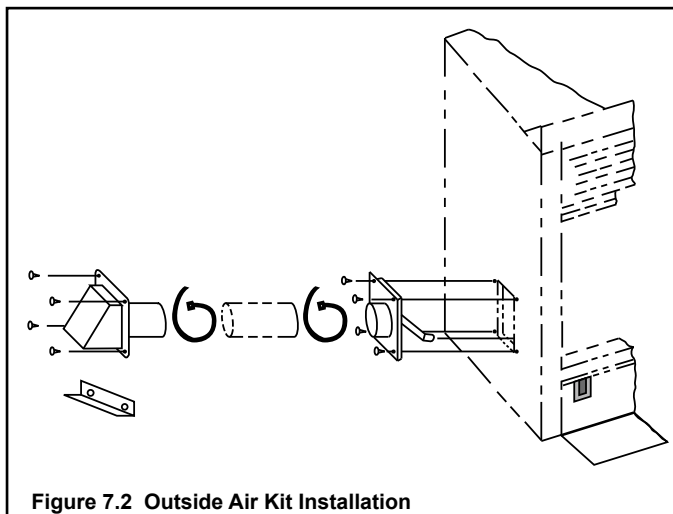

Figure 7.2 Outside Air Kit Installation
- Attach damper assembly to appliance using screws provided (see Figure 7.2).